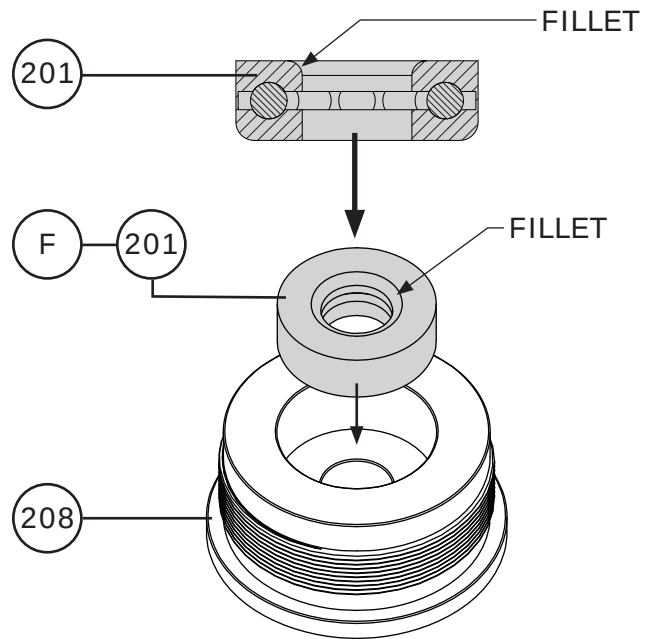

Figure 64 Second Bearing Preparation
- 8 Install the second bearing (Key 201) onto the recess of the bearing retainer (Key 208) so that the fillet of the bearing faces up as shown in Figure 64.